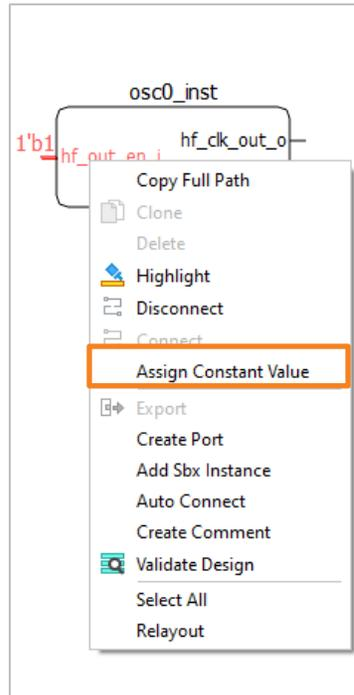

Figure 2.68. Right-click Menu of an Input Pin
1. Select the desired pin and right-click the pin. Choose **Assign Constant Value** (Figure 2.68).